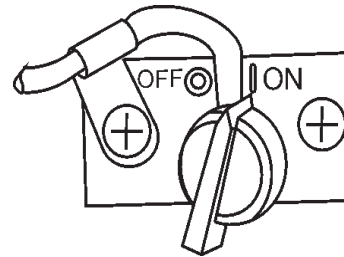

Figure 8. On Off Switch
2. Set the engine ON/OFF switch (Figure 8) to the "ON" position (start).